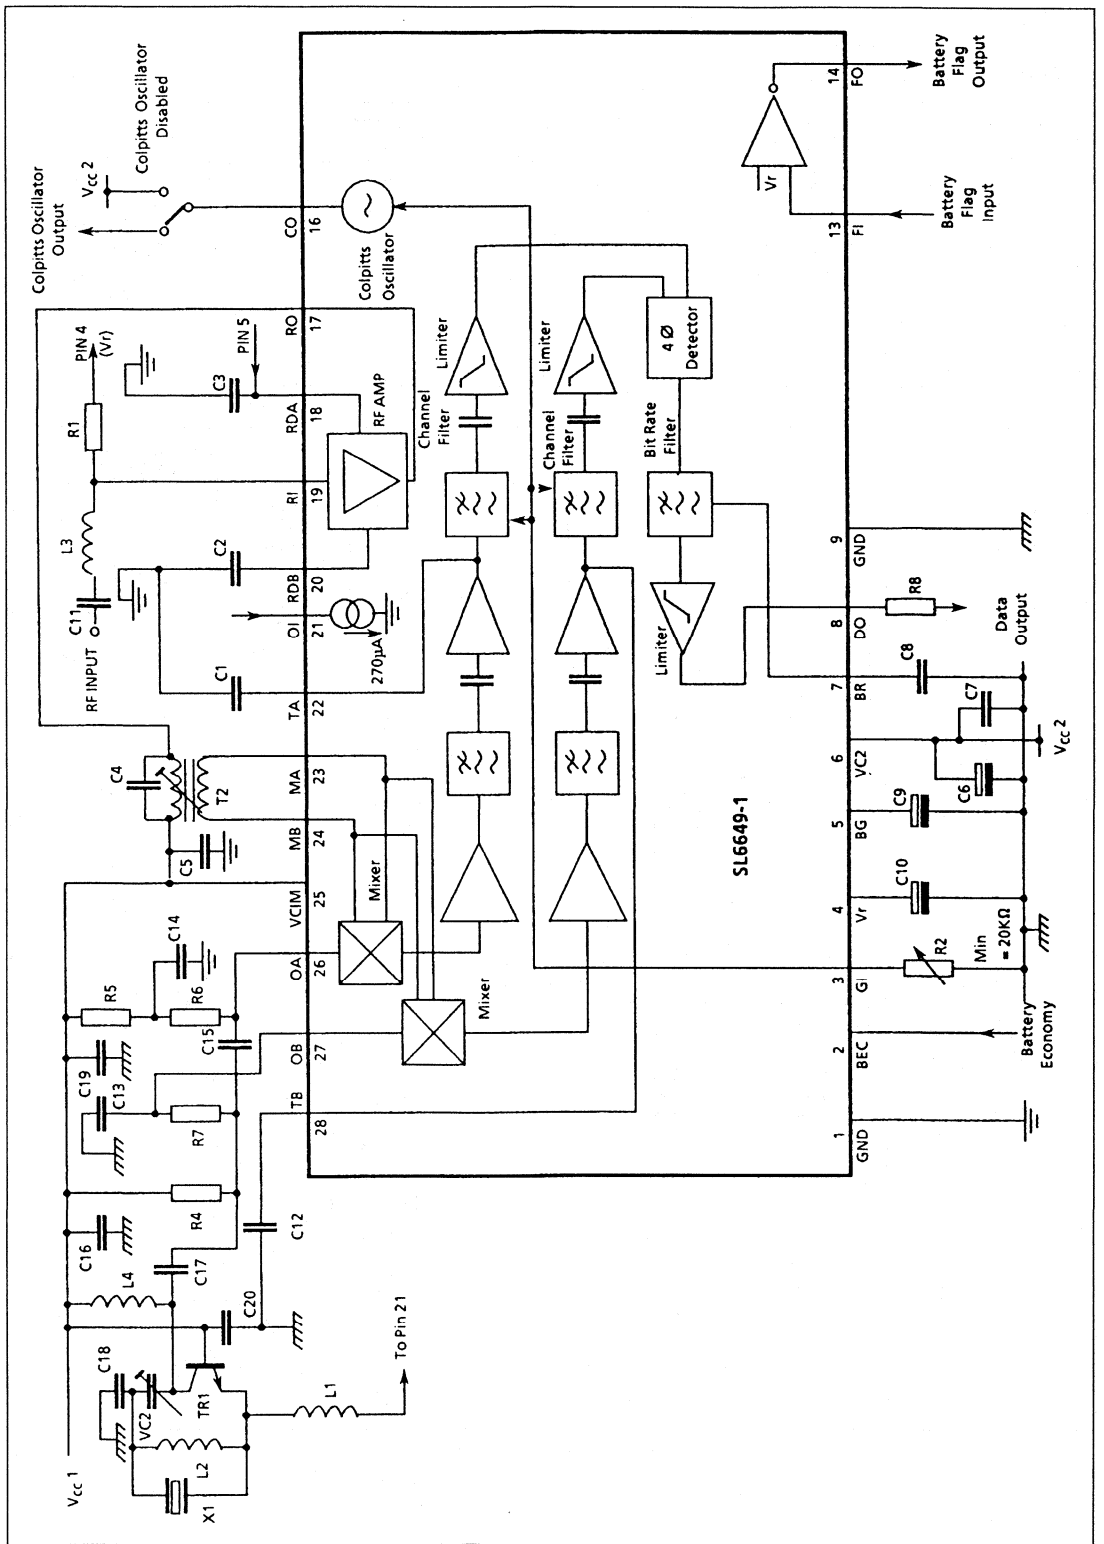

Figure 6: Block Diagram and Applications Circuit (for component values see next page)
**Measurement conditions (unless otherwise stated):** Applications circuit diagram Fig.6;  $V_{CC1} = 1.3\text{V}$ ;  $V_{CC2} = 2.3\text{V}$ ;  $T_{amb} = 25^{\circ}\text{C}$ ; Colpitts oscillator resistor =  $270\text{k}\Omega$ ; mixer input A and B phase balance =  $180^{\circ}$ ; local oscillator input A and B phase balance =  $90^{\circ}$ . Measurement methods as described by CEPT Res 2 specification.  $F_{IN} = 153\text{MHz}$  (512 baud).
COMPONENTS LIST FOR FIGURE 6